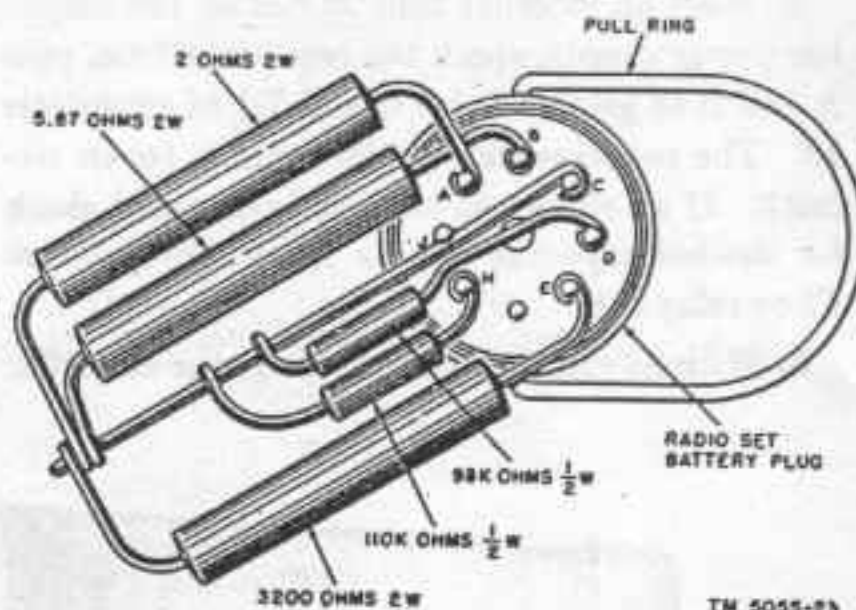

Figure 30. Receive-squelch-calibrate dummy connector.
- (2) Check the resistance between pins B and C. The reading should be 3.5 ohms.
- (3) Check the resistance between pins D and C. The reading should be about 62K ohms. If the reading is much less, check for shorted capacitor C9B or C15 in the B2 supply circuit.
- (4) Check the resistance between pins E and C. The reading should be about 132K ohms. If it is much less, check for shorted capacitor C10 in the B1 supply circuit.
- (5) Check the resistance between pins H and C. The reading should be 5.6 ohms. If it is much less, check for a short at pin H on J1, J2, J4, and P3.
b. Dummy Loads. If a radio set is not available, load resistors must be mounted on a dummy connector that will mate with plug P3 of cable W3. Use a connector similar to battery plug P1 (stock No. 2Z7250-79) at the rear of the radio set (TM 11-612). The following chart lists the load resistors required to perform each operational test. Connect one end of each load resistor to pin C (ground) on the dummy connector (figs. 30 and 31); connect the other end to the pin listed in the chart. Resistors should be within 10 percent of their rated value.